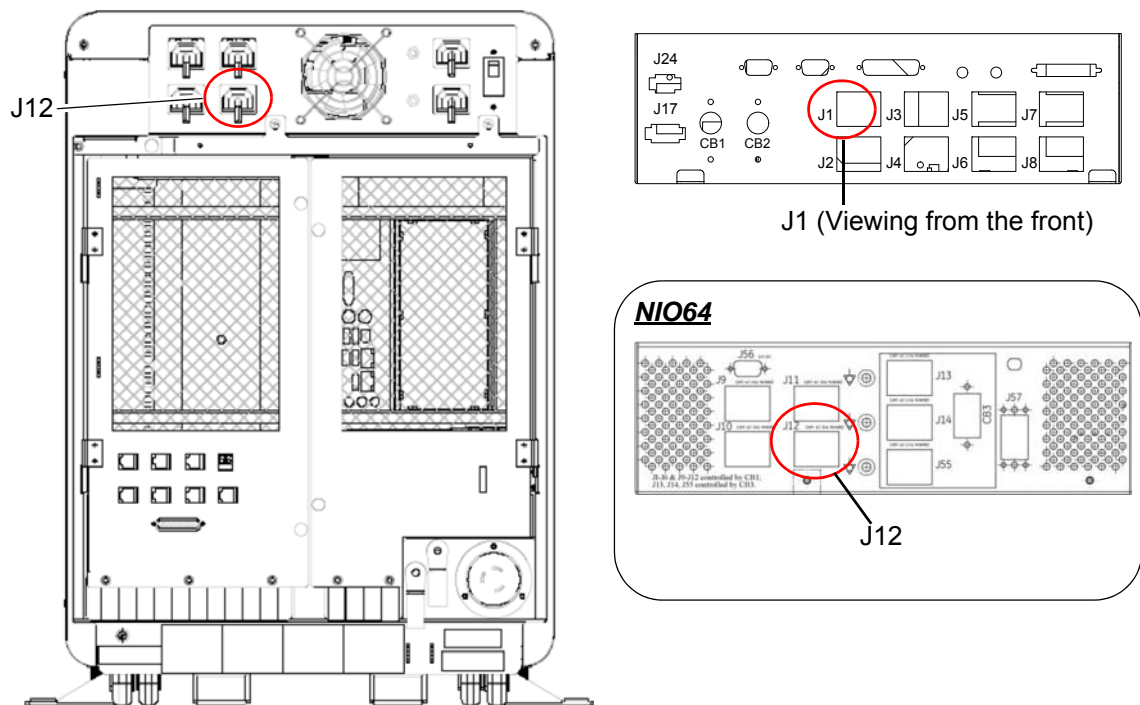

Figure E-5 AC Box J1 and J12
- 8.) Attach the AC power cable from the splitter to the J1 of the console AC Box. See Figure E-5. Connect the remote power cord to J12.